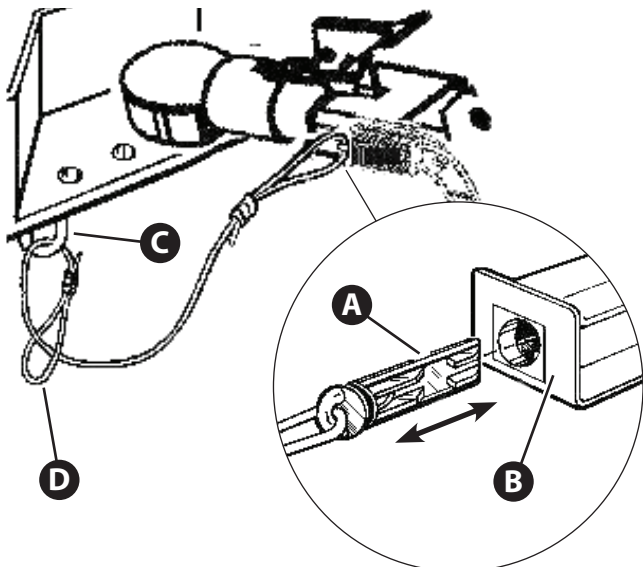

Figure 3.5
1. Pull the pin (A, Figure 3.5) out of the break-away brake switch (B).
3. Route the pin through the safety chain pocket (C, Figure 3.5), then through the break-away brake cable loop (D).